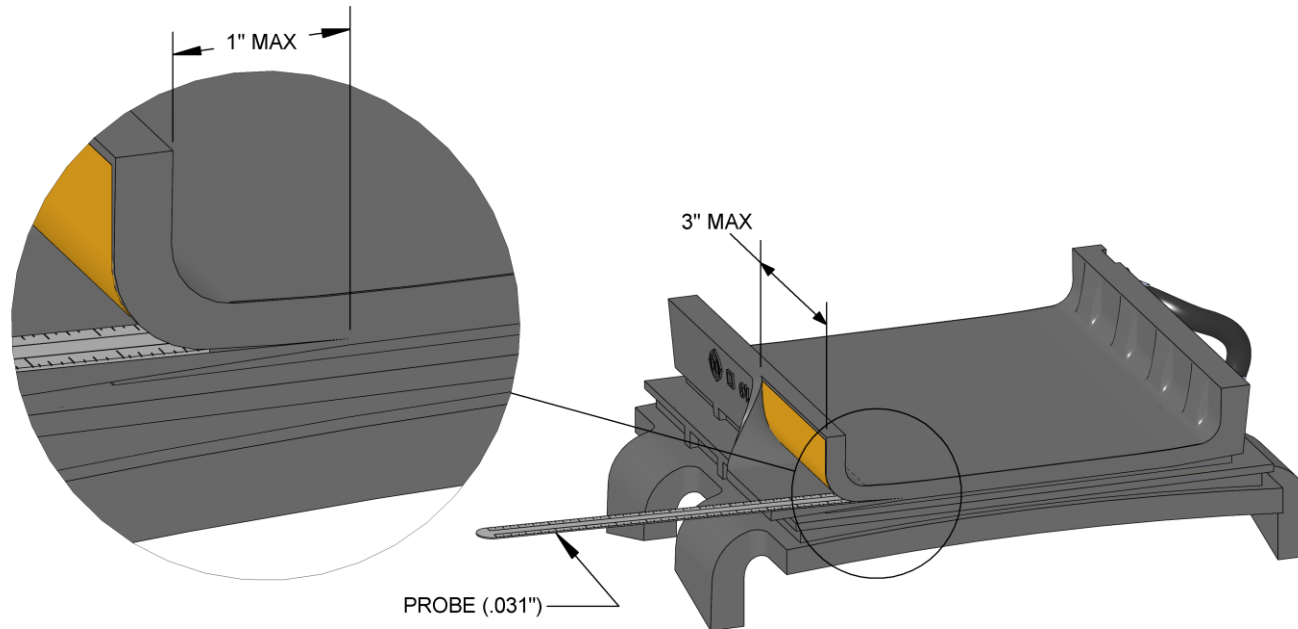

Figure 2
3. Delamination of the bond between metal plates and the elastomer main body exceeding 1" in depth and 3" in length, or a total of 3 sq. in. (See Figure 2).